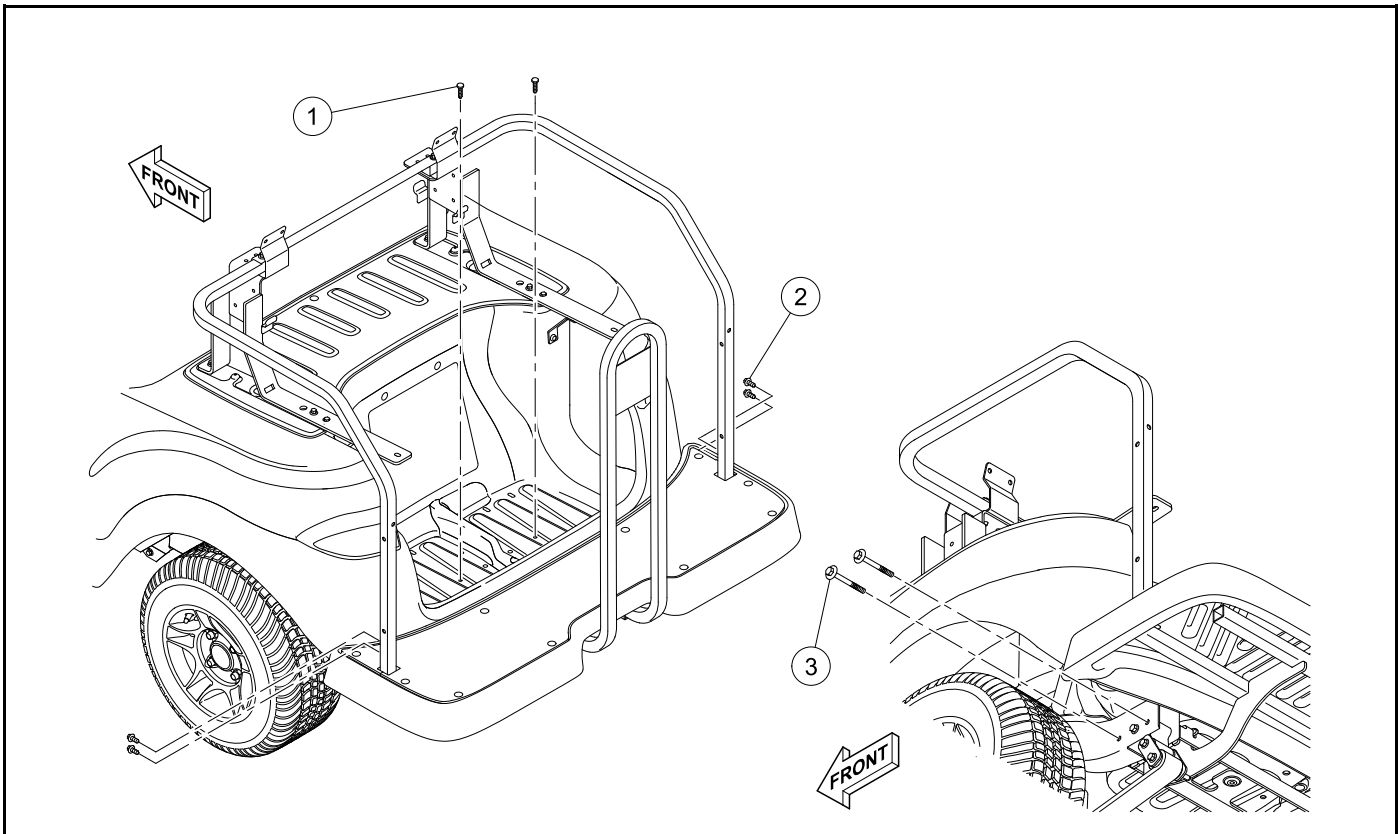

Figure 4-52 Foot Deck (2+2) Removal
2. Remove the screws (1) (**Figure 4-52**).
3. Remove the screws (2).
4. Remove the bolts (3) and the foot deck.